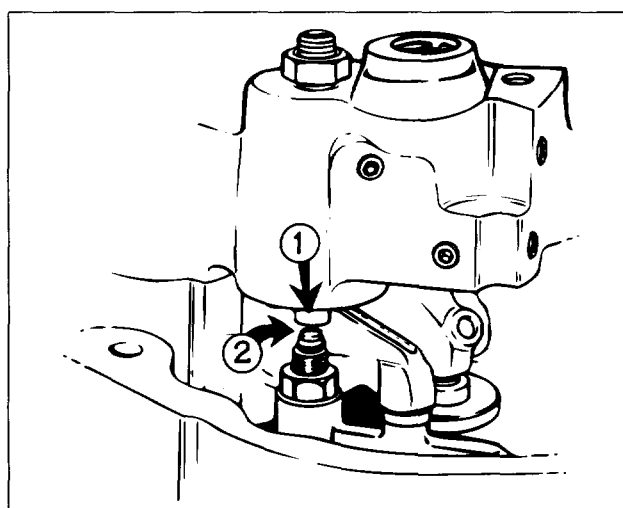

FIG. 13
Be sure the slave piston foot (1) remained aligned squarely over the bridge screw and pin assembly (2) during torquing. This will insure proper activation of the exhaust valve stem. Reposition the housing if necessary (see Fig. 13).